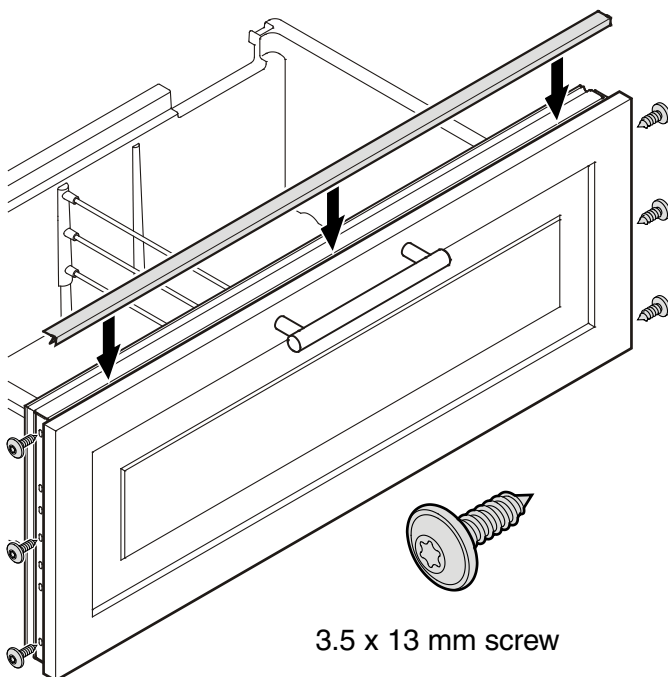

Figure 43
Mounting the Freezer Drawer Panels - *Figure 43*
1. Pull out the upper freezer drawer and screw on the panel with three screws on the left and right sides using the screws as shown in *Figure 43*.